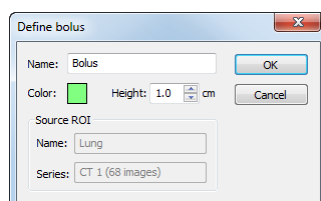

Figure 246 – Define bolus dialog
3. The **Define bolus** dialog (see Figure 246) is then displayed in which you carry out the following: